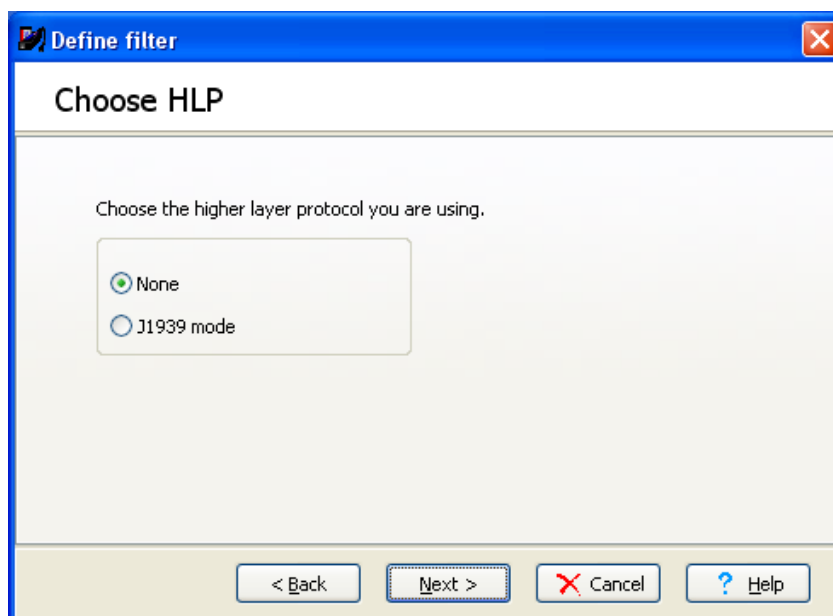

Figure 15. Choose HLP.
- Don't choose any higher layer protocol, just let the *None* box be checked. See Figure 15.